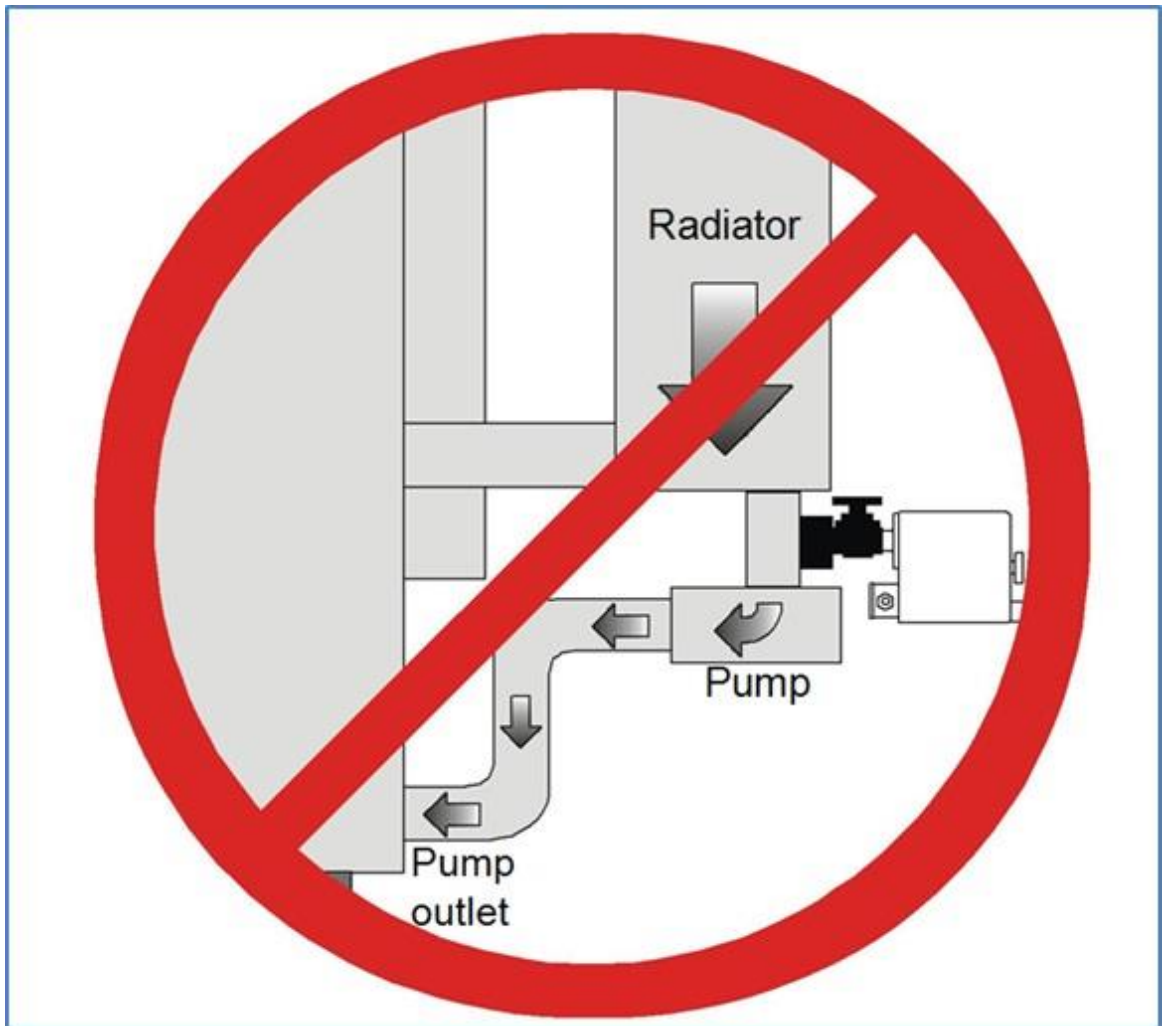

Figure 6-5: Do Not Install the H201Ti on the Inlet Side of the Radiator Pump
8. Do not install the H201Ti on the inlet side of the radiator pump (see Figure 6-5 below).